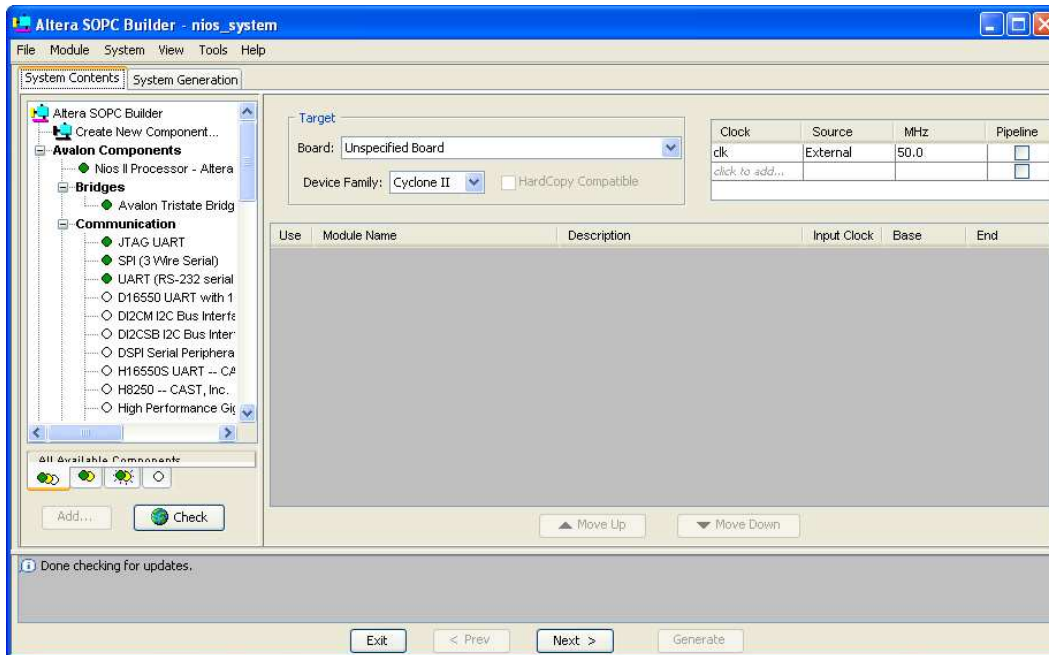
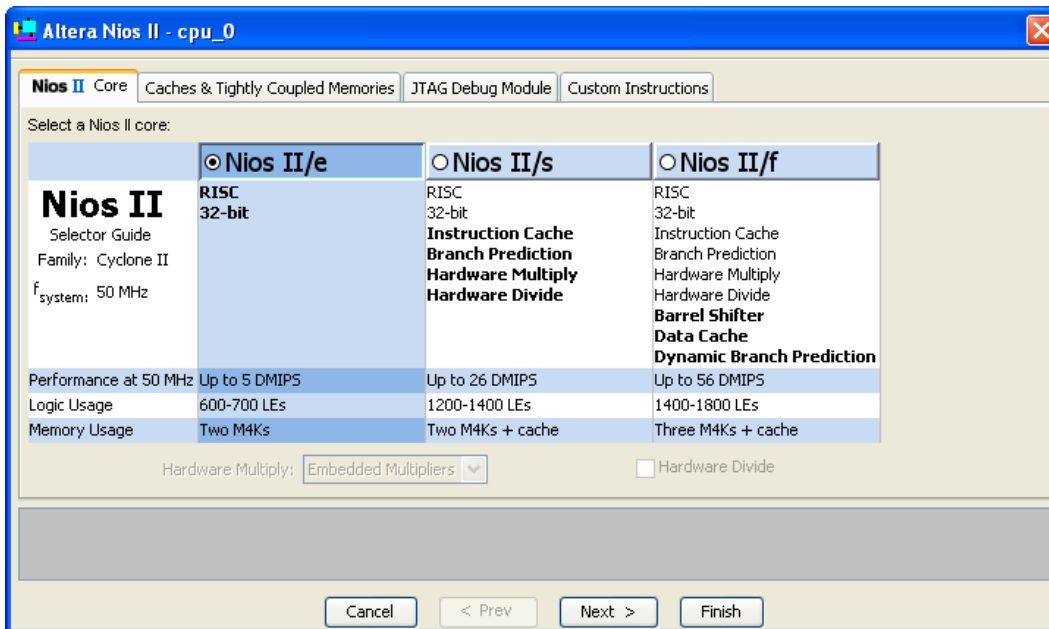
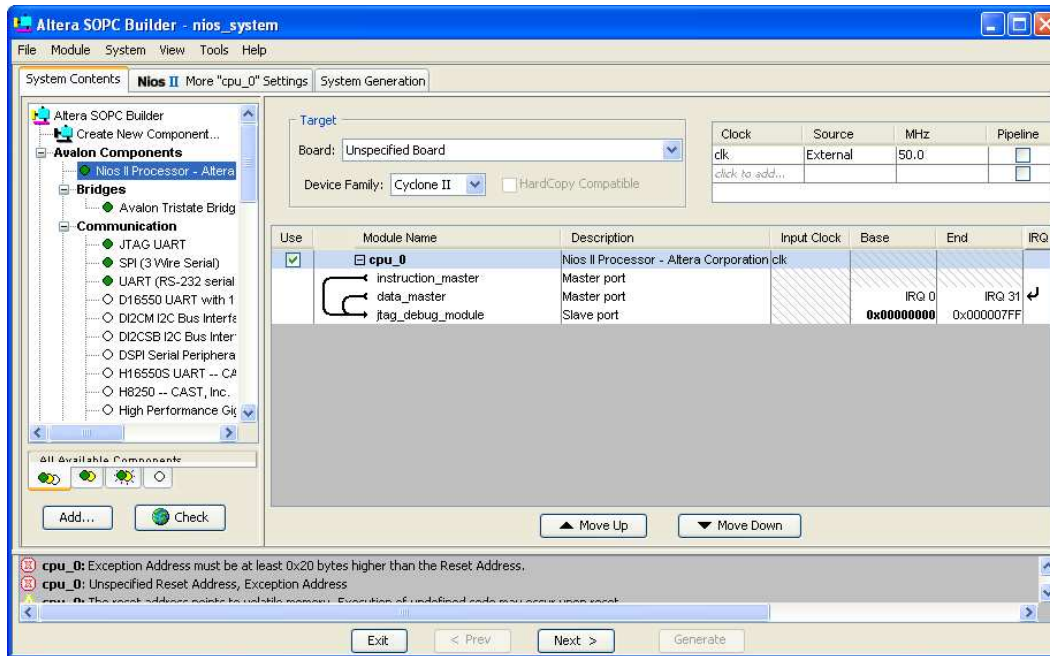

Figure 5. The System Contents tab window.
Figure 6. Create a Nios II processor.
Figure 7. The defined processor.
2. Select Tools > SOPC Builder, which leads to the pop-up box in Figure 4. Enter *nios_system* as the system name; this will be the name of the system that the SOPC Builder will generate. Choose VHDL as the target HDL, in which the system module will be specified. Click OK to reach the window in Figure 5.
3. Figure 5 displays the System Contents tab of the SOPC Builder, which is used to add components to the system and configure the selected components to meet the design requirements. The available components are listed on the left side of the window. Before choosing our components, examine the area in the figure labeled **Target**. A drop-down list is provided that allows some available Altera boards to be selected. It is not necessary to select a board, and since the DE2 board is not included in the list leave the selection as Unspecified board. Next, check the setting for the Device Family and ensure that Cyclone II is selected.
4. The Nios II processor runs under the control of a clock. For this tutorial we will make use of the 50-MHz clock that is provided on the DE2 board. As shown in Figure 5, it is possible to specify the names and frequency of clock signals in the SOPC Builder display. If not already included in this list, specify a clock named *clk* with the source designated as External and the frequency set to 50.0 MHz.
- On the left side of the window in Figure 5 select Avalon Components > Nios II Processor - Altera Corporation and click Add, which leads to the window in Figure 6.
- Choose Nios II/e which is the simplest version of the processor. Click **FINISH** to return to the window in Figure 5, which now shows the Nios II processor specified as indicated in Figure 7. There may be some warnings or error messages displayed in the SOPC Builder Messages window (at the bottom of the screen), because some parameters have not yet been specified. Ignore these messages as we will provide the necessary data later. Observe also that a new tab called **Nios II More “cpu_0” Settings** appears, which allows further configuration of the processor - we will not use it.